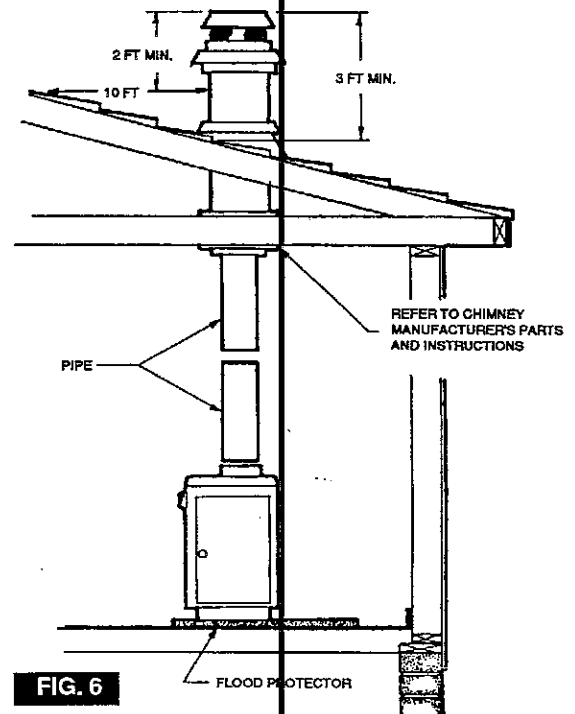

FIG. 6
1. The chimney connection should be as short as possible. The heater must have its own chimney. Do not connect this unit to a chimney flue serving another appliance. If there is no chimney near where you wish to place the heater, you can use a UL Listed Residential Type and Building Heating Appliance Chimney (Fig. 6).
Carefully follow chimney manufacturer's instructions. Use only a UL Listed Residential Type and Building Heating Appliance Chimney. If your chimney starts at the ceiling (Fig. 6), you will need a 6" elbow and enough 6" pipe to reach the ceiling. You will also need the connector adapter Sears Stock No. 42-99185.
The top of the chimney must be at least 3 feet above the roof and be at least 2 feet higher than any point of the roof within 10 feet (Fig. 6).